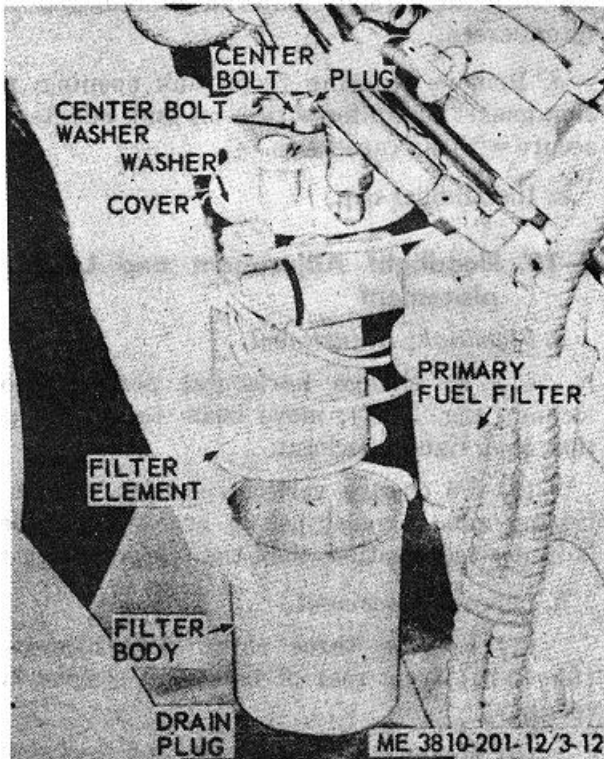

Figure 3-11. Secondary fuel filter service (model 687C-18-ES).
(1) Remove drain plug (fig. 3-11) and drain filter.
(2) Remove plug from center bolt; remove center bolt and center bolt washer, then remove filter body from cover.
(3) Remove disposable filter element and washer and discard.
(4) Clean all parts with an approved cleaning solvent and dry thoroughly. Be sure that all sludge and foreign matter has been removed from filter body.
(5) Install new filter element in body; install washer on cover, then install filter body in cover and secure with center bolt washer and center bolt.